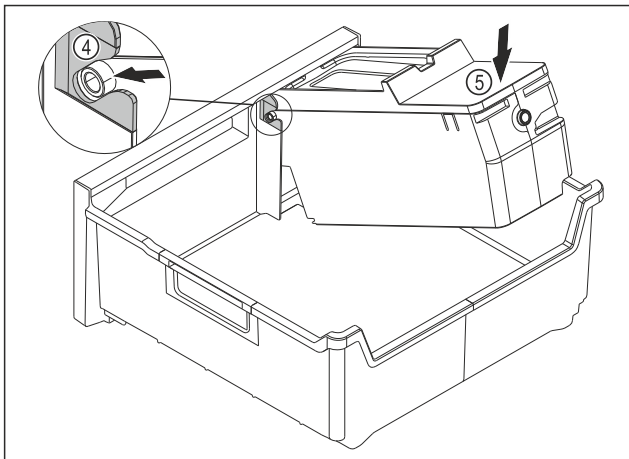

Fig. 134
- ▶ Installing the EasyTwist-Ice body: Push the axes for the EasyTwist-Ice body into the guides Fig. 134 (4).
- ▶ Press the EasyTwist-Ice body Fig. 134 (5) down at the back.